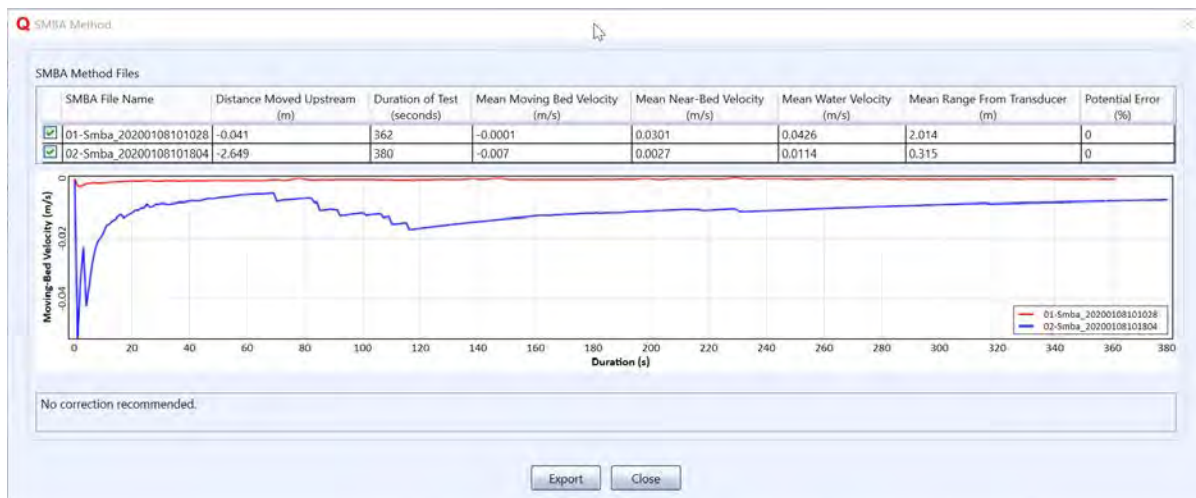

Figure 77. SMBA Results
5. After the selected number of samples has been reached, results will automatically be displayed, as shown in Figure 77.